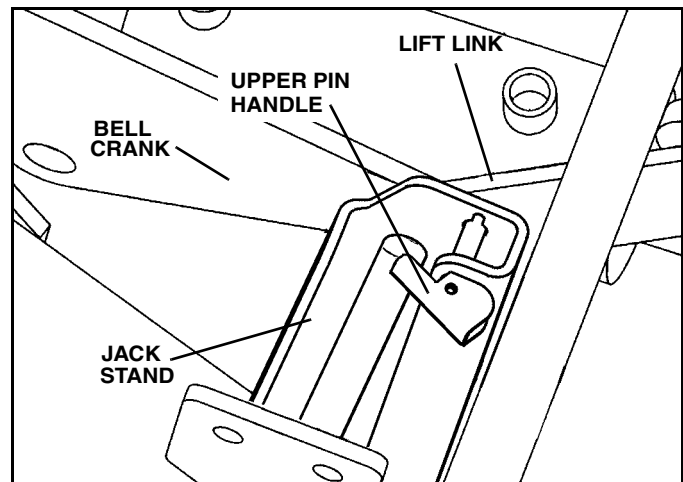

Figure 1-18
32. Disengage both pins on the jack stand by pulling the handles. Lower the jack stand and then engage the upper pin by pushing the handle down to lock the jack stand in place. (See Figure 1-18).